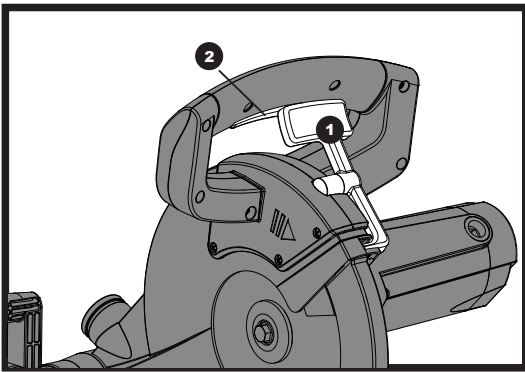

Fig 28
Push down the lock lever (1) and squeeze the trigger switch (2) to turn the mitre saw ON. Release the trigger switch to turn the saw OFF. (See fig. 28)